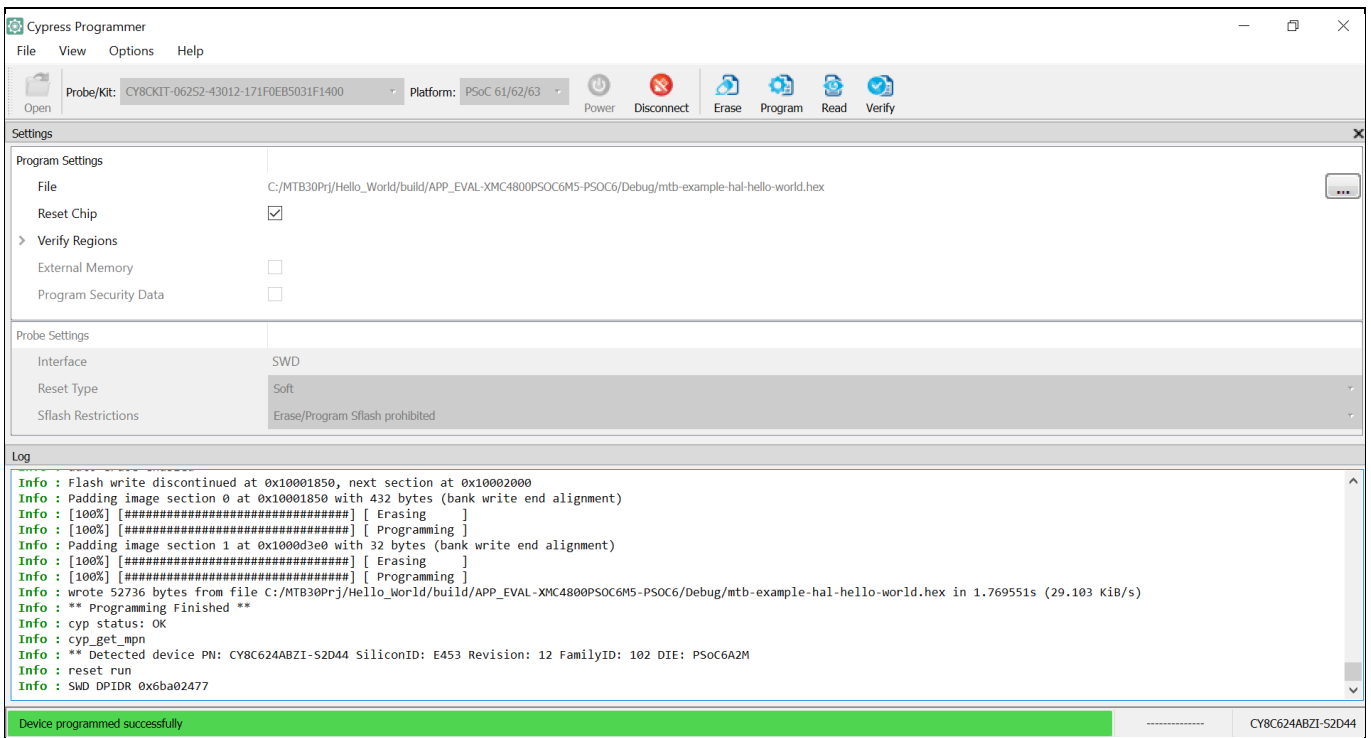

Figure 16 Notification when programming completes successfully
4. Select **File** → **Program** or click **Program** to finish programming **PSoC™ 62**. A green status indicator appears as shown in Figure 16 or refer to the Log for status.